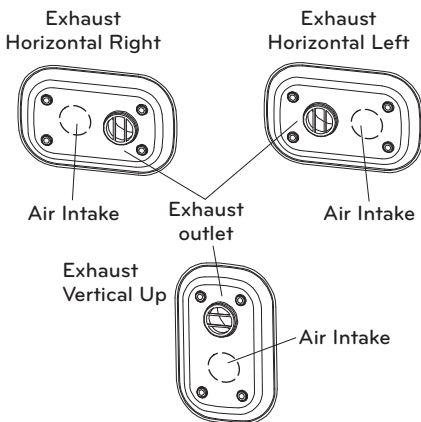

Fig.7-16
- Exhaust vent pipe can be located horizontally left, right, or vertically up from the air intake pipe. See Fig.7-16.